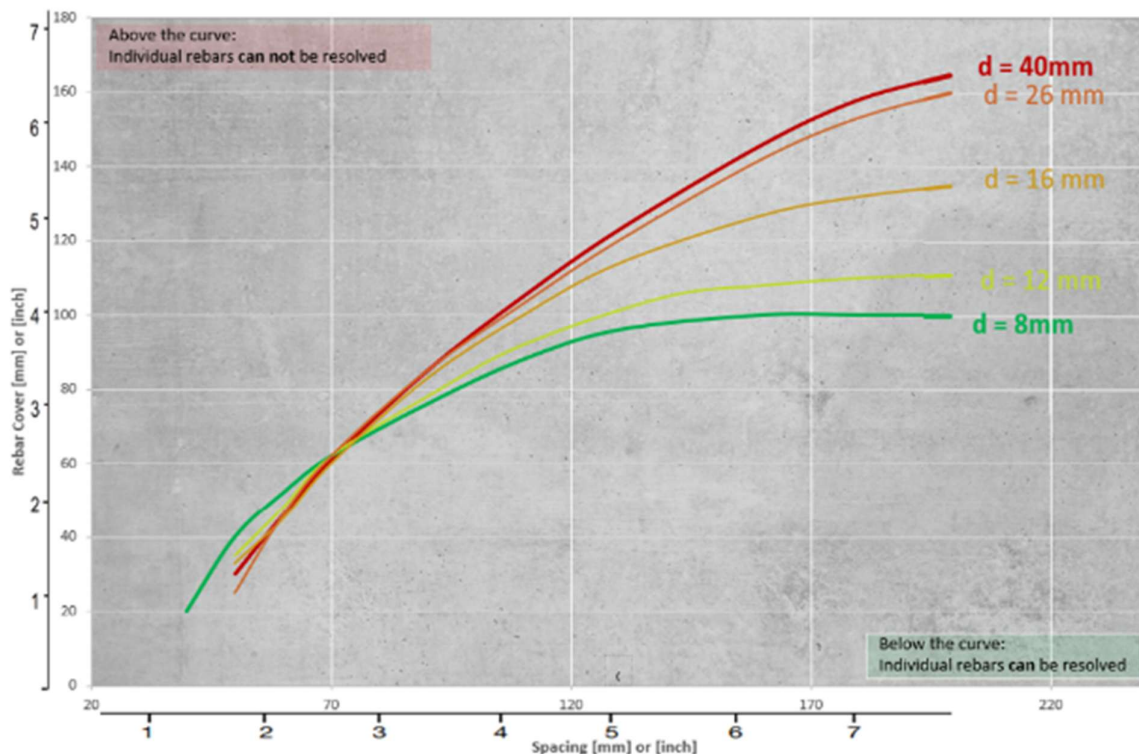

Figure 31: PM8000 Resolution Chart
- ! There is a limit to the minimum spacing of rebars, which can be differentiated. This value is depending on the cover depth and rebar diameter. It is impossible to distinguish between individual rebars above these limits following the rebar diameters as presented in Figure 31.